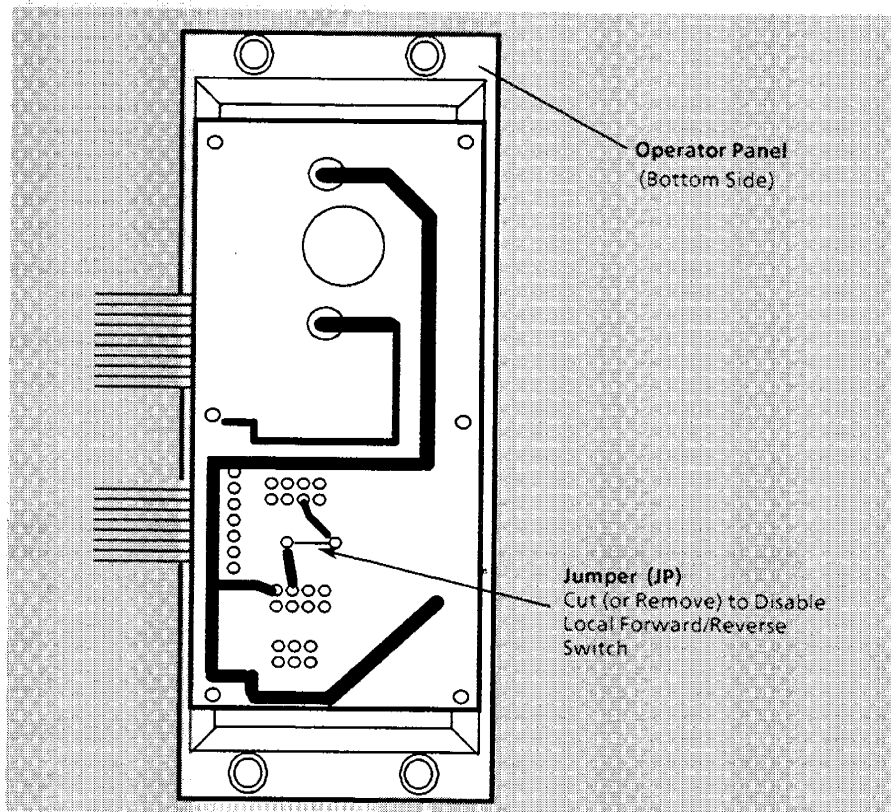

Figure 6-3. SW2 Disable Jumper Location
3. Remove the four (4) screws securing the Operator Panel to the chassis.
4. Position the Operator Panel so that the bottom of the panel is visible. Refer to Figure 6-3.